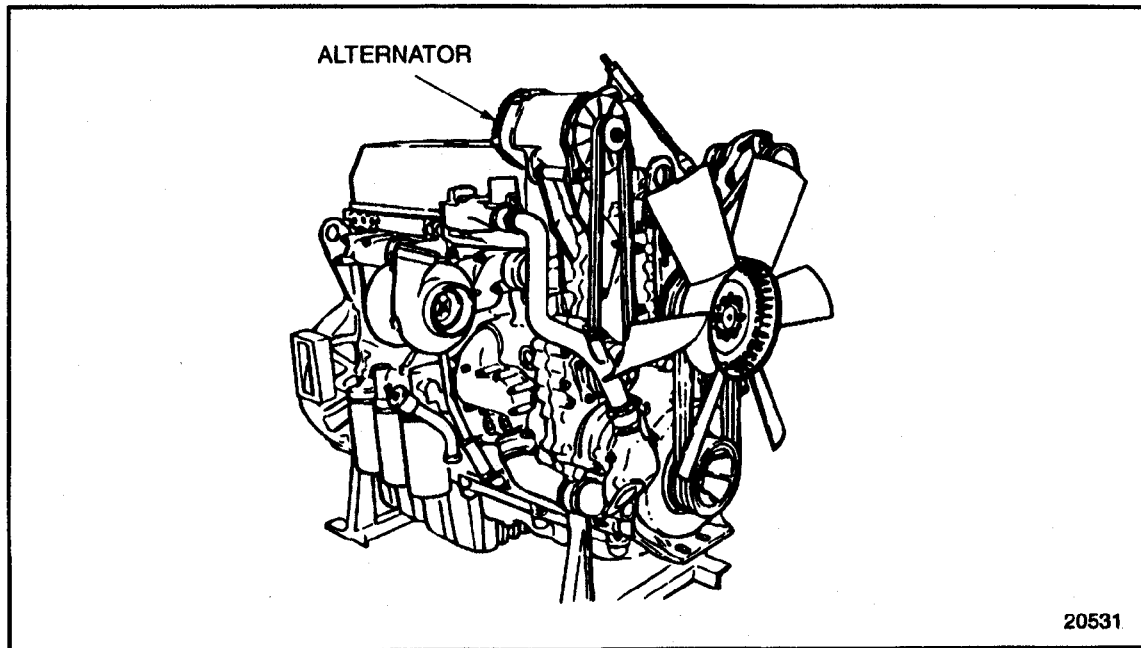

Figure 8-3 Alternator Mounting
The hinge mounted 25 - SI and 33 - SI alternators and the bracket mounted 50 DN alternator are alternating current (AC), self-rectifying units. See Figure 8-3.